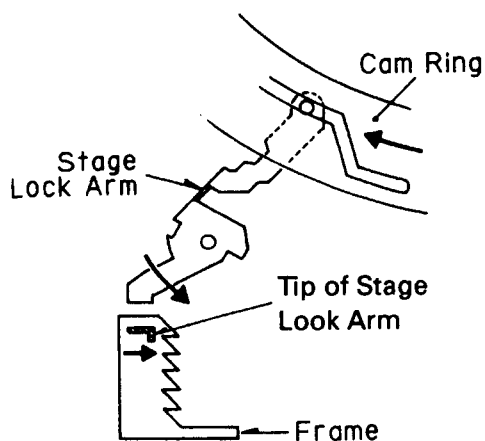

Fig.28
3. The rotation of the cam ring causes the stage lock arm to swing. The tip of the arm is held in place by the tapered part of the frame, and the stage mechanism is actuated in the left/right, up/down and front/rear directions.(Fig. 28,29)